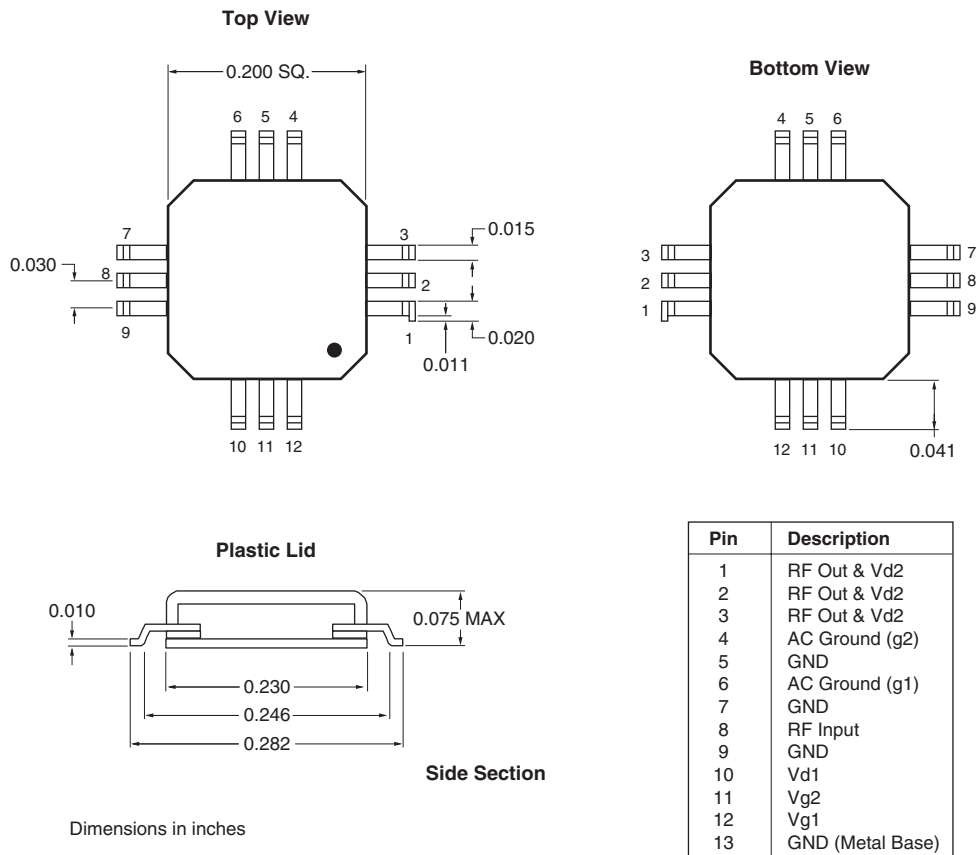
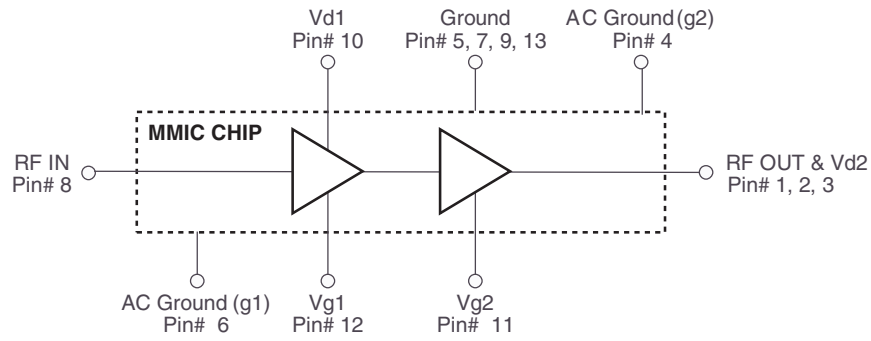
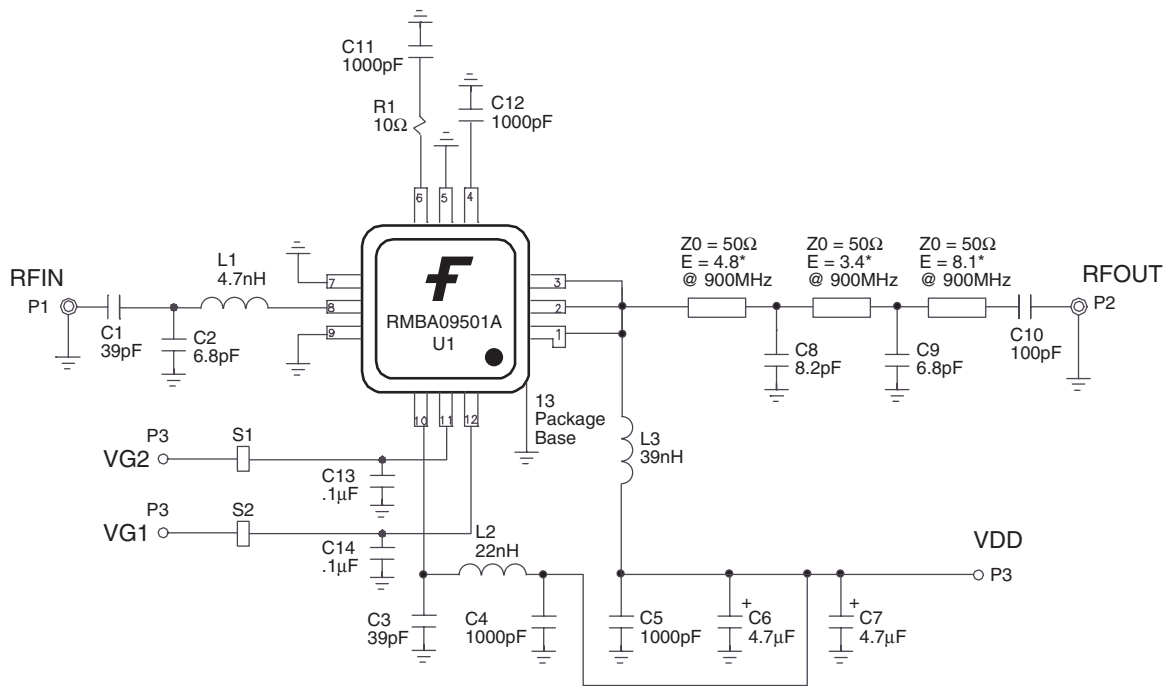
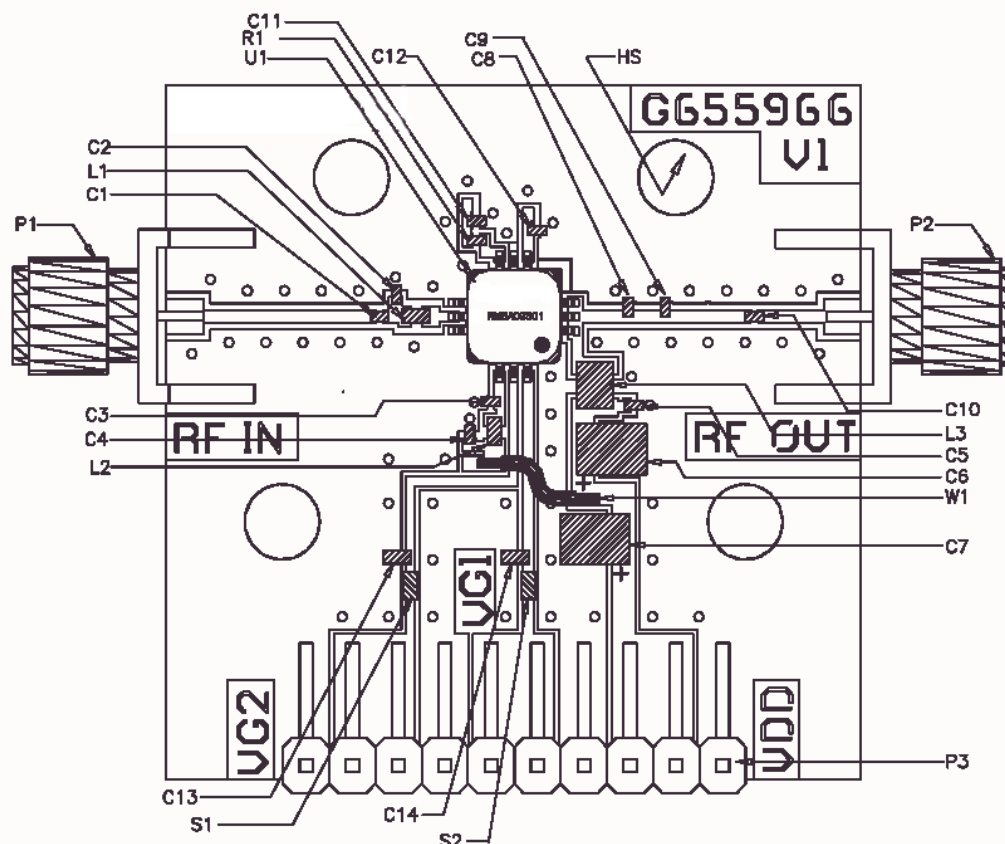

Figure 1. Package Outline and Pin Designations
Figure 2. Functional Block Diagram of Packaged Product
Figure 3. Schematic of Application Circuit Showing External Components
Figure 4. Layout of Test Evaluation Board (RMBA09501-TD, G657471)
The device requires external input and output matching to 50Ω as shown in Figure 3 and the Parts List.
The following describes a procedure for evaluating the RMBA09501, a monolithic high efficiency power amplifier, in a surface mount package, designed for use as a driver stage for Cellular Base stations, or as the final output stage for Micro- and Pico-Cell base stations. Figure 1 shows the package outline and the pin designations. Figure 2 shows the functional block diagram of the packaged product. The RMBA09501 requires external passive components for DC bias and RF input and output matching circuits as shown in Figure 3 and the Part List. A recommended schematic circuit is shown in Figure 3. The gate biases for the two stages of the amplifier may be set by simple resistive voltage dividers. Figure 4 shows a typical layout of an evaluation board, corresponding to the schematic circuits of Figure 3. The following designations should be noted:
- (1) Pin designations are as shown in Figure 2.
- (2) V_{g1} and V_{g2} are the Gate Voltages (negative) applied at the pins of the package.
- (3) V_{gg1} and V_{gg2} are the negative supply voltages at the evaluation board terminals.
- (4) V_{d1} and V_{d2} are the Drain Voltages (positive) applied at the pins of the package.
- (5) V_{dd1} and V_{dd2} are the positive supply voltages at the evaluation board terminals.